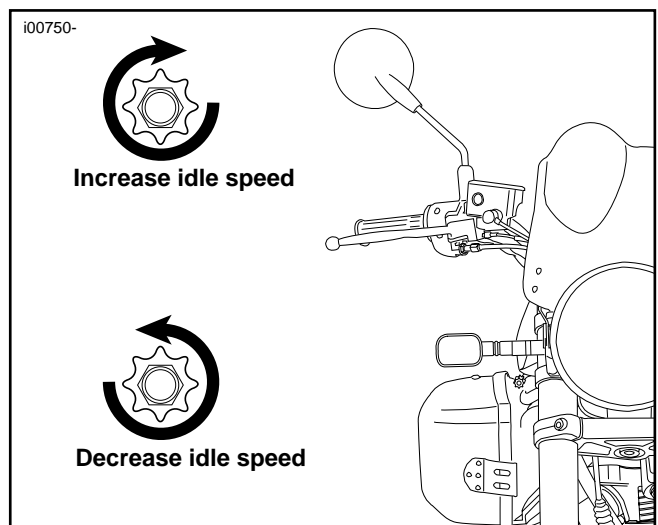

Figure 5. Idle Speed Adjuster
8. See Figure 5. Set idle speed by turning adjuster. See speeds listed in Table 1 below: